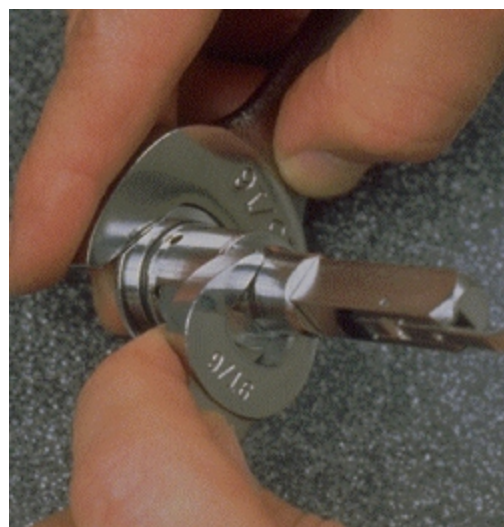

Fig. 3
5. Continue to hold the inlet chamber flange secure, and remove the control valve flange(9) complete with the control valve assembly(15), using a 9/16" open end wrench. (Fig. 3) Remove and inspect the inlet chamber o-ring(3) for any signs of decay. Discard if found.